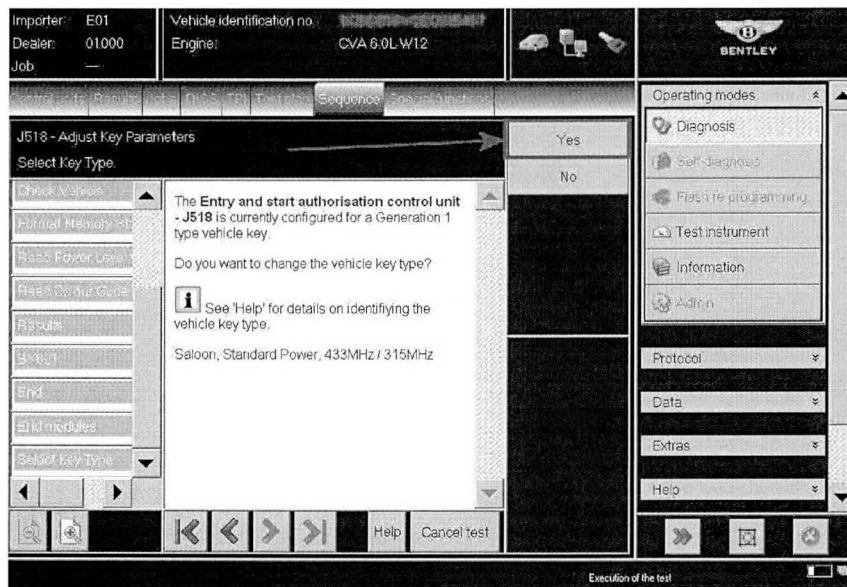

Figure 8
1. Referring to Figure 8, select **Yes** and follow all on screen prompts